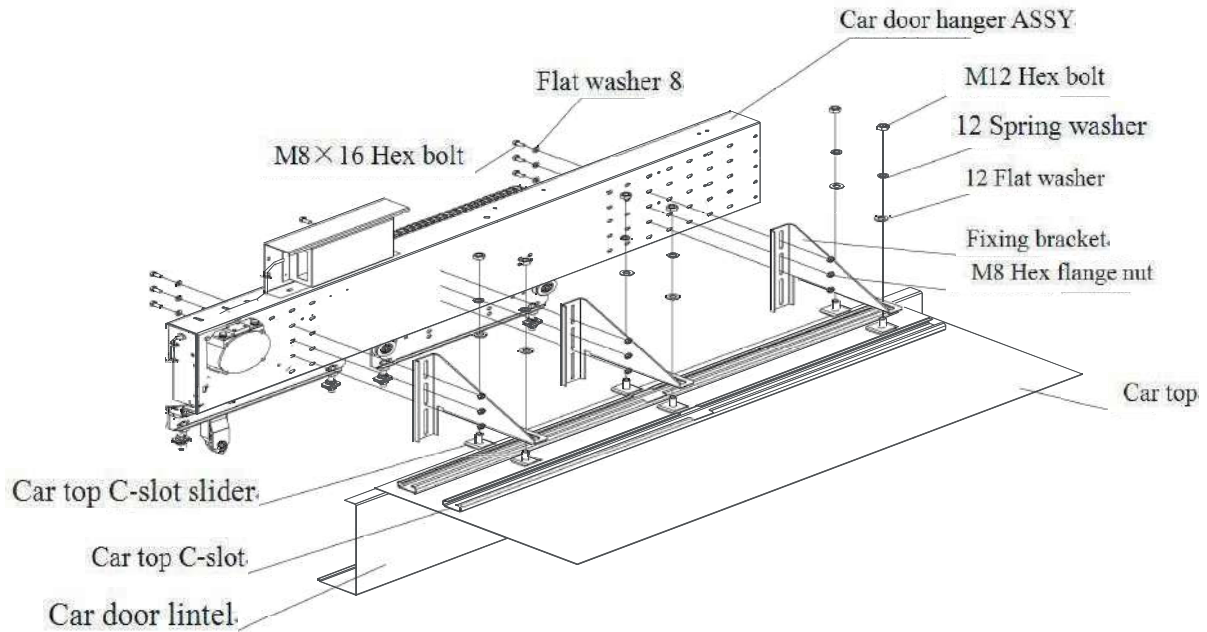

Figure 5-3-1 Car door hanging components installation (2 Panels side opening)
- 1) Installation of car door hanging components refer to Figure 5-3-1